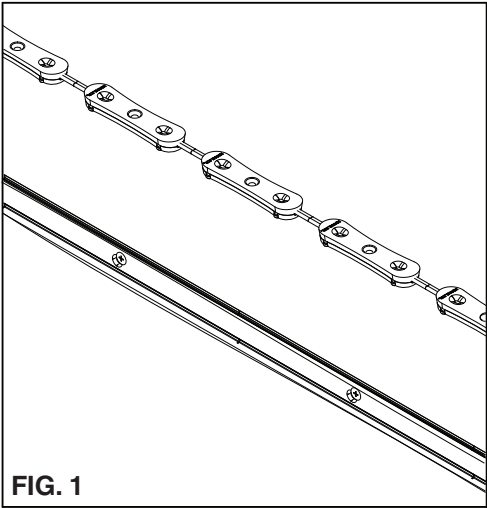

FIG. 1
- D. Snap LED Linear string into track. (See Figure 1)